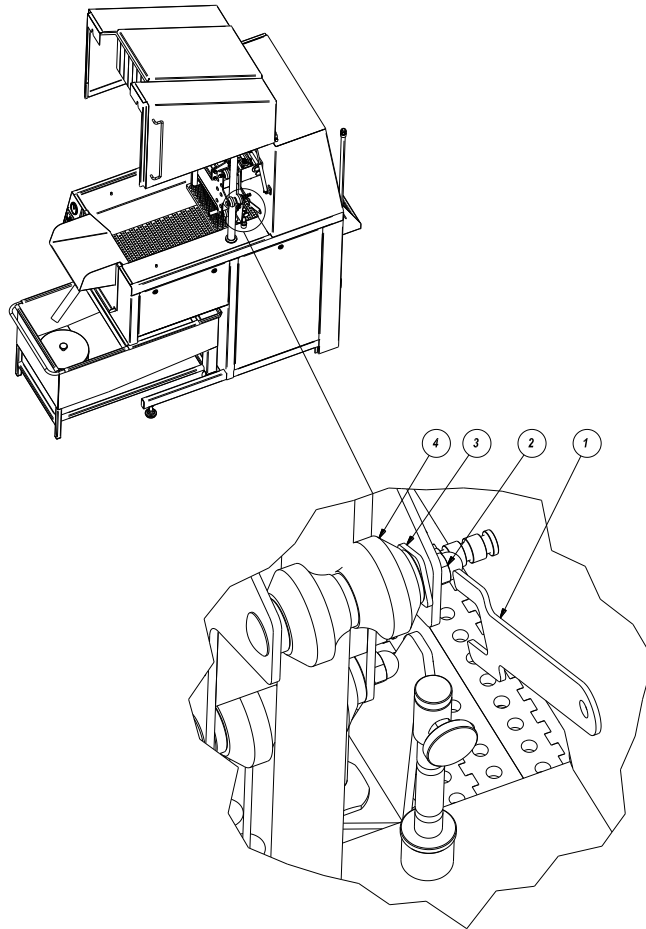

Figure 8. Adjustment of injection head rollers
- place the spanner p.1, fig. 8 in the outline of the washer p.3,.